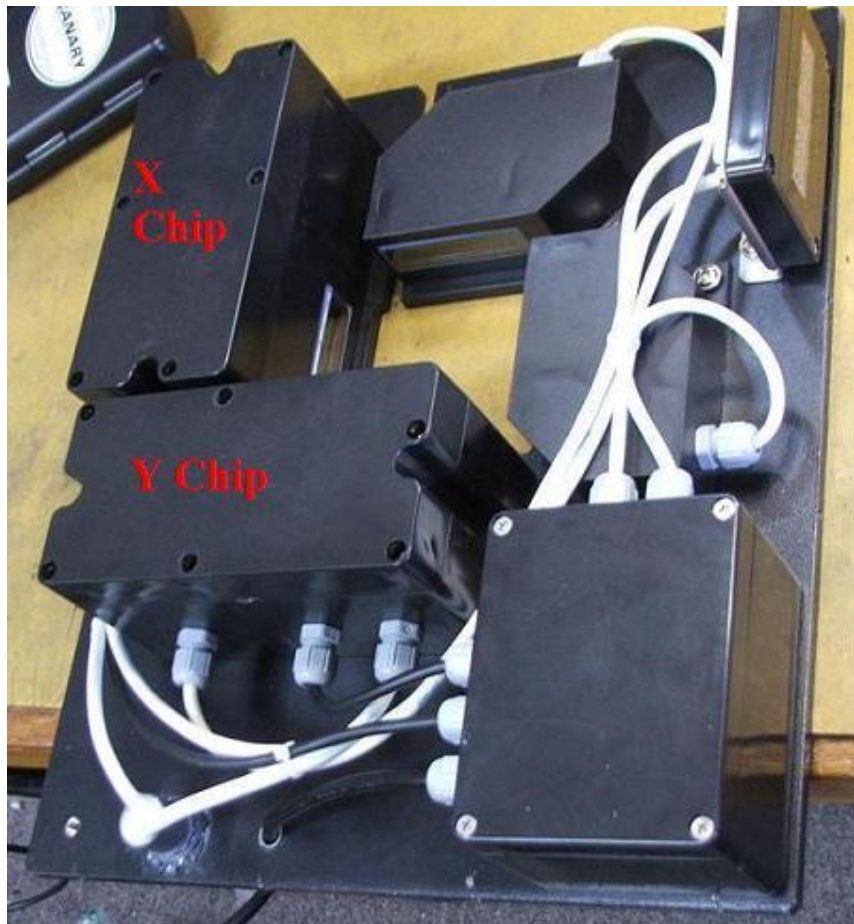

Figure 1: Inner modules containing either the "X" or "Y" microchip
4. Using the Phillips screwdriver, unscrew the 6 screws that secure the lid of the module(s) you wish to access. (Fig. 1)